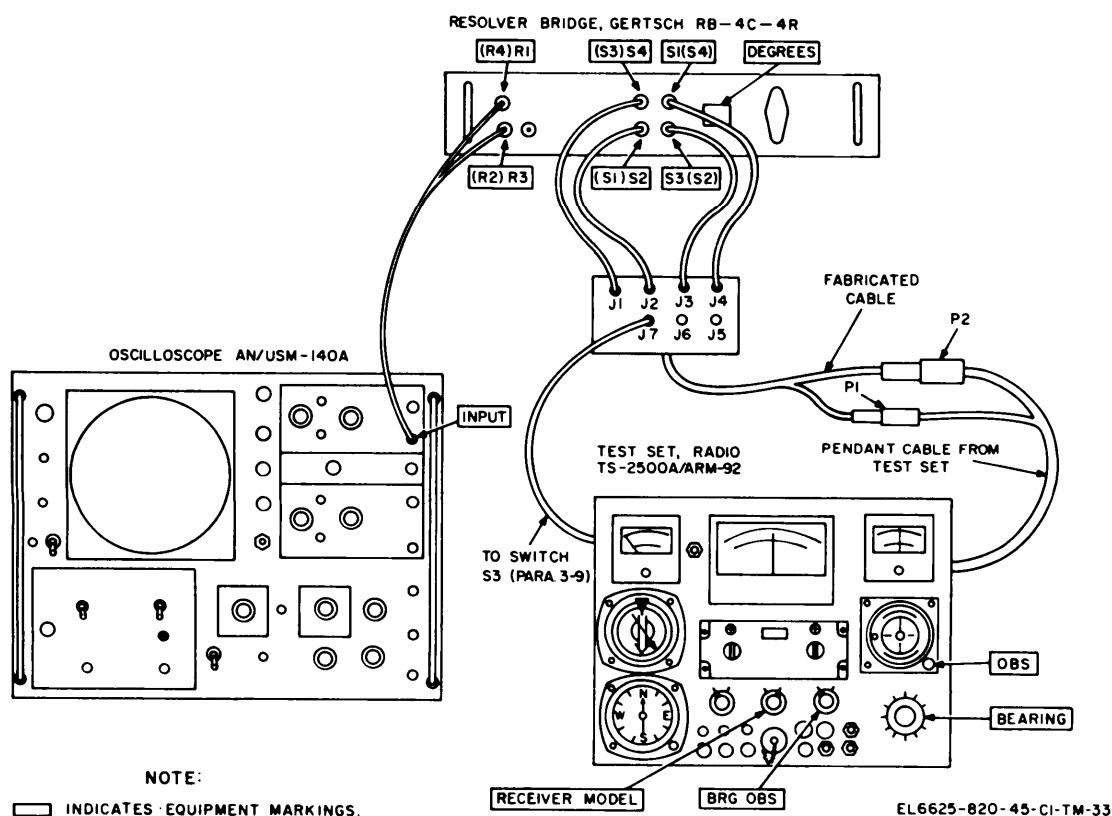

Figure 3-2. TS-2500A/ARM-92 precision BEARING alignment.
- a. Disconnect the test set from the resolver test setup (fig. 2-9). Connect the test set and the resolver bridge as shown in figure 3-2. Use the cable fabricated in paragraph 4-4 (fig. 4-1.2).
- (1) Solder six 2-foot lengths of # 22 AWG stranded insulated wire to pins C, D, E, F, G, and H of male connector P1.
- (2) Solder two 2-foot lengths of # 22 AWG stranded insulated wire to pins G and E of male connector P2.
- (3) Label the loose ends of the six wires with the pin number to which each wire is connected.
- (4) Slip a 2-inch length of spaghetti over the loose end of the eight wires.
- (5) Mount and label seven binding posts on a small enclosed metal box (fig. 3-2).
- (6) Connect a 21.5-kilohm,  $\pm 1\%$ , 1/2-watt resistor from binding post J6 to binding post J7.
- (7) Connect a 21.5-ohm,  $\pm 1\%$ , 1/2-watt resistor from binding post J5 to binding post J7.